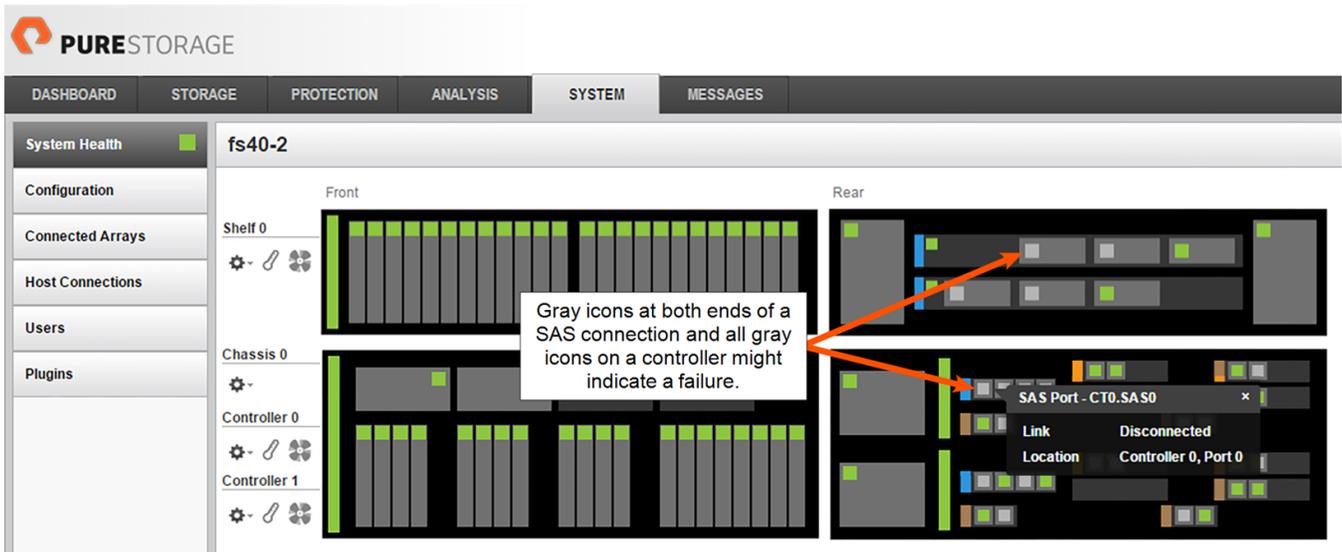

Figure 13-2. GUI Display Showing Quad-Port SAS Card Failure
- In the GUI, select **SYSTEM > System Health**. Gray icons at both ends of a SAS connection and all gray icons on a controller that has connected SAS cables might indicate a failure (see Figure 13-2).